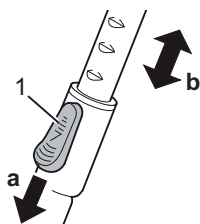

Fig. 4
4. Adjust the length of the telescopic tube. To do this, press the telescopic tube lock (Fig. 4/1) forward (Fig. 4/a). Then pull the handle of the telescopic tube to extend it to the desired length (Fig. 4/b). To lock it in place, let go of the release catch while pulling. You will hear a distinct click.